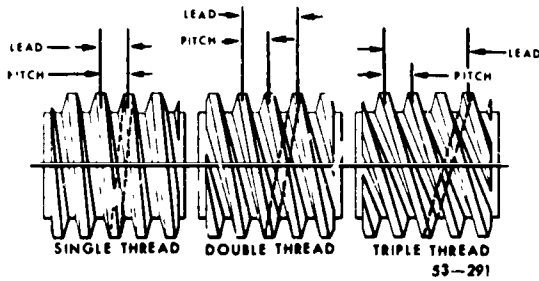

Figure 5-43. Comparison of single and multiple-lead threads.
**Exercises (264):**
**Multiple Threads.** A multiple thread, as shown in figure 5-43, is a combination of two or more threads, parallel to each other, progressing around the surface into which they are cut. If a single thread is thought of as taking the form of a helix—that is, of a string or cord wrapped around a cylinder, a multiple thread may be thought of as several cords lying side by side and wrapped around a cylinder. There may be any number of threads, and they start at equally spaced intervals around a cylinder. Multiple threads are used in cases where rapid movement of the nut or other attached parts is desired and any weakening of the thread is to be avoided. A single thread having the same lead as a multiple thread would be very deep in comparison to the multiple thread.
pitch, as shown in figure 5-43. Provisions must also be made to obtain the correct spacing of the different thread grooves. This may be accomplished by using the thread-chasing dial, setting the compound parallel to the ways, using a multiple driving plate, or using the stud and box gear break up.